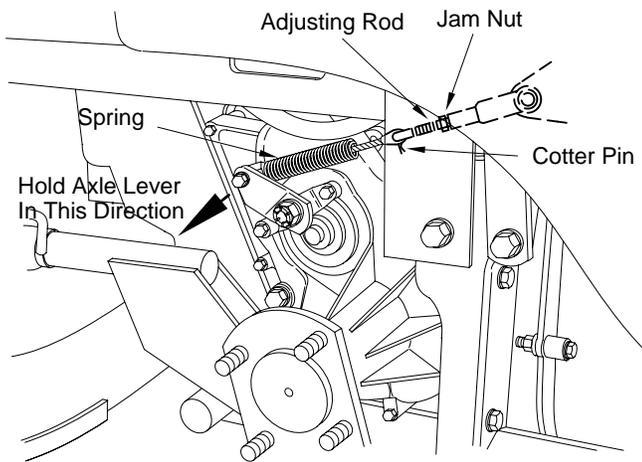

Figure 6-3 Adjusting Left Brake Linkage
- A. Remove the cotter pin securing the adjustment arm to the brake spring (Figure 6-3). Loosen the jam nut on the adjusting rod.